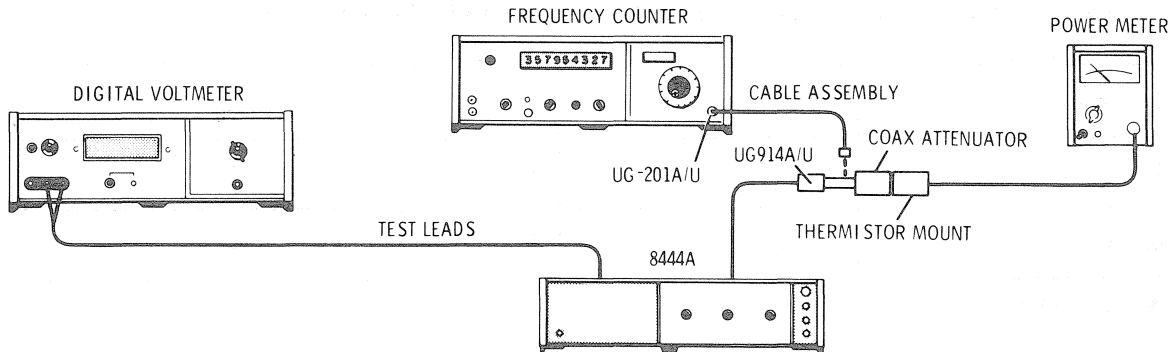

Figure 5-2. 1.55 GHz LO Power Level and Frequency Check and Adjustment Test Setup
Pages 5-3 through 5-6, Paragraph 5-9 and Figure 5-2, change to read as follows:
4. With test setup as indicated in Figure 5-2, connect Power Meter to Isolator AT3 J2 via 08555-60076 cable, 10 dB attenuator and UG 914A/U adapter.